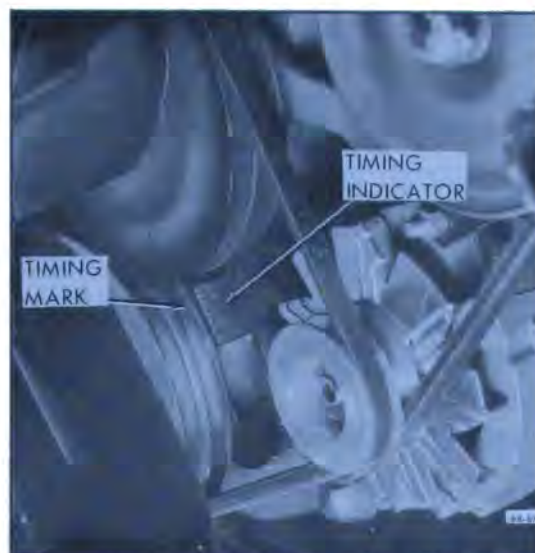

Figure 68-37—Ignition Timing Mark and Indicator - L-6 Engine
The timing mark is a cut in the rear edge of the harmonic balancer. The timing indicator, a part of the timing chain cover, has a series of grooves which indicate one degree intervals. The "O" on the timing indicator is at T.D.C. and the "A" is at the five degrees advance mark. See Figure 68-37.
1. With No. 1 spark plug removed and with hole plugged, rotate crankshaft in a forward direction using a suitable wrench on the harmonic balancer to crankshaft bolt. When plug blows from No. 1 cylinder, continue rotation until timing mark on balancer is aligned with proper mark on timing indicator. See Figure 68-37 or 38. No. 1 cylinder is now in position to fire.